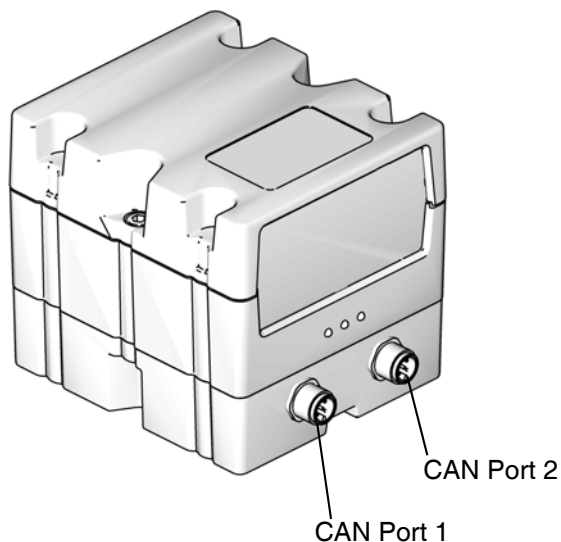
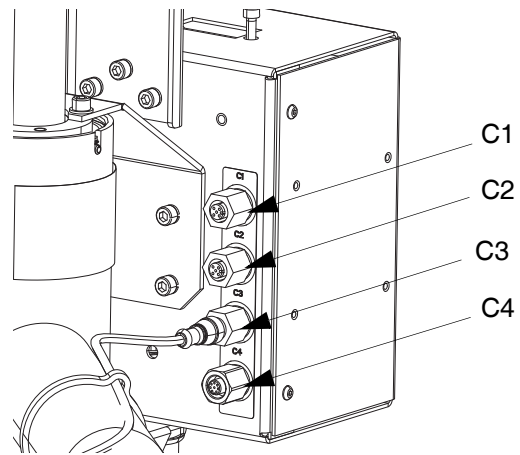

Fig. 63: CGM CAN Connections
FIG. 66: Power Junction Box Port Locations
6. Using the four 10-32 mounting screws included with the kit, mount the base (DD) in the holes you drilled.
7. Reattach the CGM (DC) on the base (DD) with the two screws (DB) that were removed in step 5.
8. Reattach the access cover (DA).
- b. If a CGM kit is used, connect the 1.5m CAN cable (122487) included in the CGM kit from either port on the CGM (1 or 2) to port C2 on the Power Junction Box (AJ). See FIG. 63 and FIG. 66.
- d. On iQ Ram Supply Unit 1, ensure that the cable is connected from the ADM splitter (124654) to port C1 on the Power Junction Box. See FIG. 66.
- e. Connect the 5m CAN cable (124003) included in the tandem kit to the ADM splitter (124654), and connect the other end to Port C1 on the Power Junction Box on iQ Ram Supply Unit 2. See FIG. 66.
- a. Disconnect the ADM cable connected to Port 1 on the Electric Driver on iQ Ram Supply Unit 1. Connect the cable to Port 1 on the CGM. See FIG. 63.
- b. Connect the 1.5m CAN cable (122487) included in the CGM kit from Port 2 on the CGM to the ADM splitter (124654). See FIG. 63.
- c. Connect the 0.4m CAN cable (121266) included in the tandem kit from one end of the ADM splitter to port C1 on the Power Junction Box on either iQ Ram Supply Unit. See FIG. 66.
- d. Connect the 5m CAN cable (124003) included in the tandem kit from the other end of the ADM splitter to port C1 on the Power Junction Box on the other iQ Ram Supply Unit. See FIG. 66.